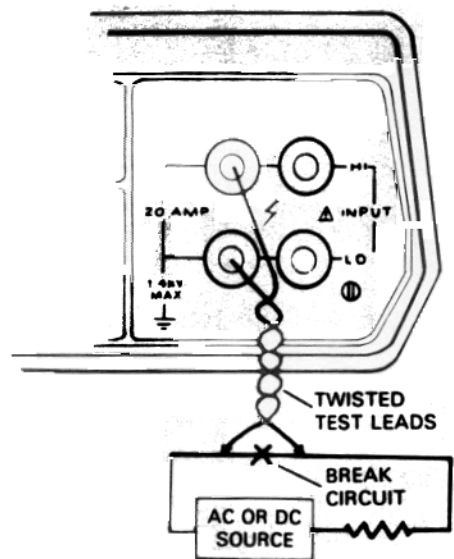

Figure 2-7. Current Measurements Between 2000mA and 20A
- C. Connect the unknown current to the 20 AMP jacks of the Model 179A as shown in Figure 2-7.
The test leads used must be capable of handling 20A and it is recommended that they be twisted (see Figure 2-7) to minimize external fields which could affect the Model 179A or other equipment. Also, keep the test leads as short as possible to minimize voltage drop.